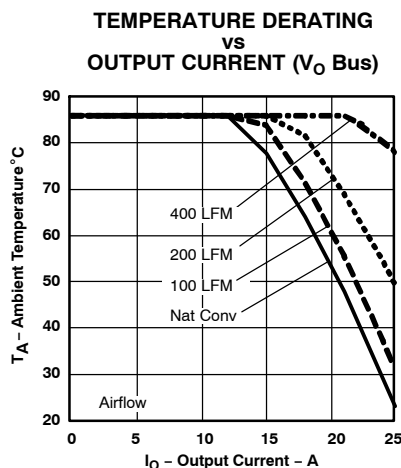
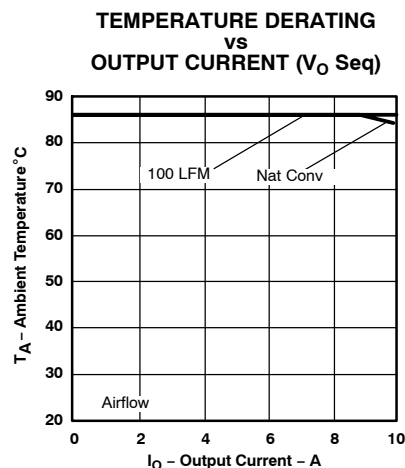

Figure 4.
Figure 5.
- (2) The temperature derating curves represent operating conditions at which internal components are at or below manufacturer's maximum rated operating temperature. See Figure 4 and Figure 5.